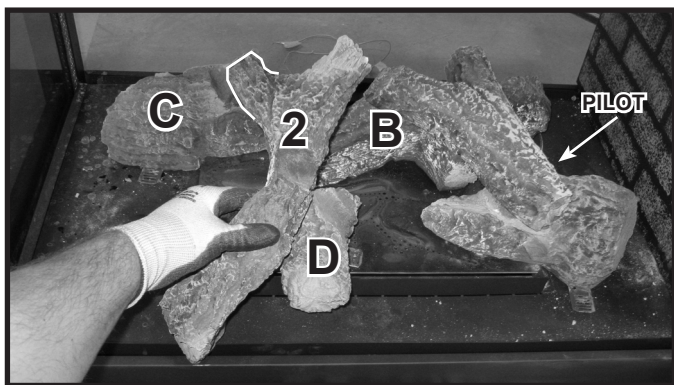
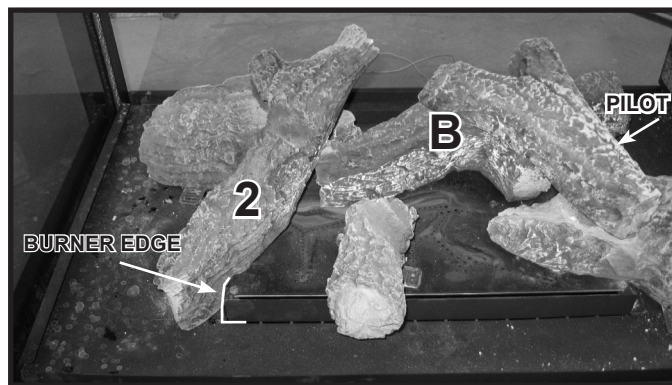

Figure 5. Placement of Log #2
Figure 6. Placement of Log #2
STEP 2. Log #2 (SRV2129-705): Locate portion of Log #2 that is highlighted in Figure 5. Place that portion of Log #2 on the indentation on Log C. Log #2 will rest on the tip of Log B. Slide the bottom of Log #2 up to the edge of the burner as shown in Figure 6.